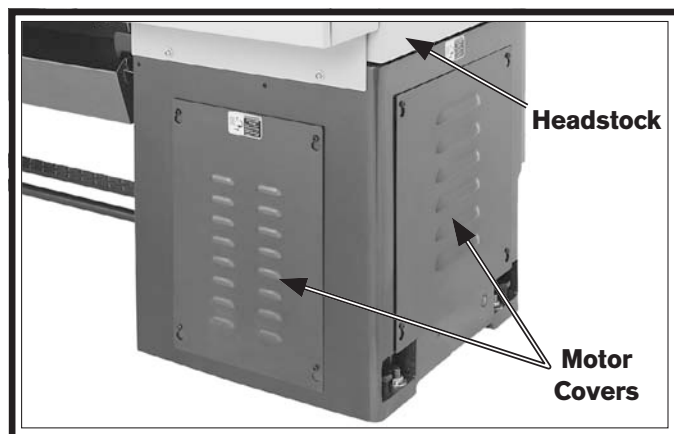

Figure 132. Locations of motor covers.
2. Remove the motor covers shown in **Figure 132**.